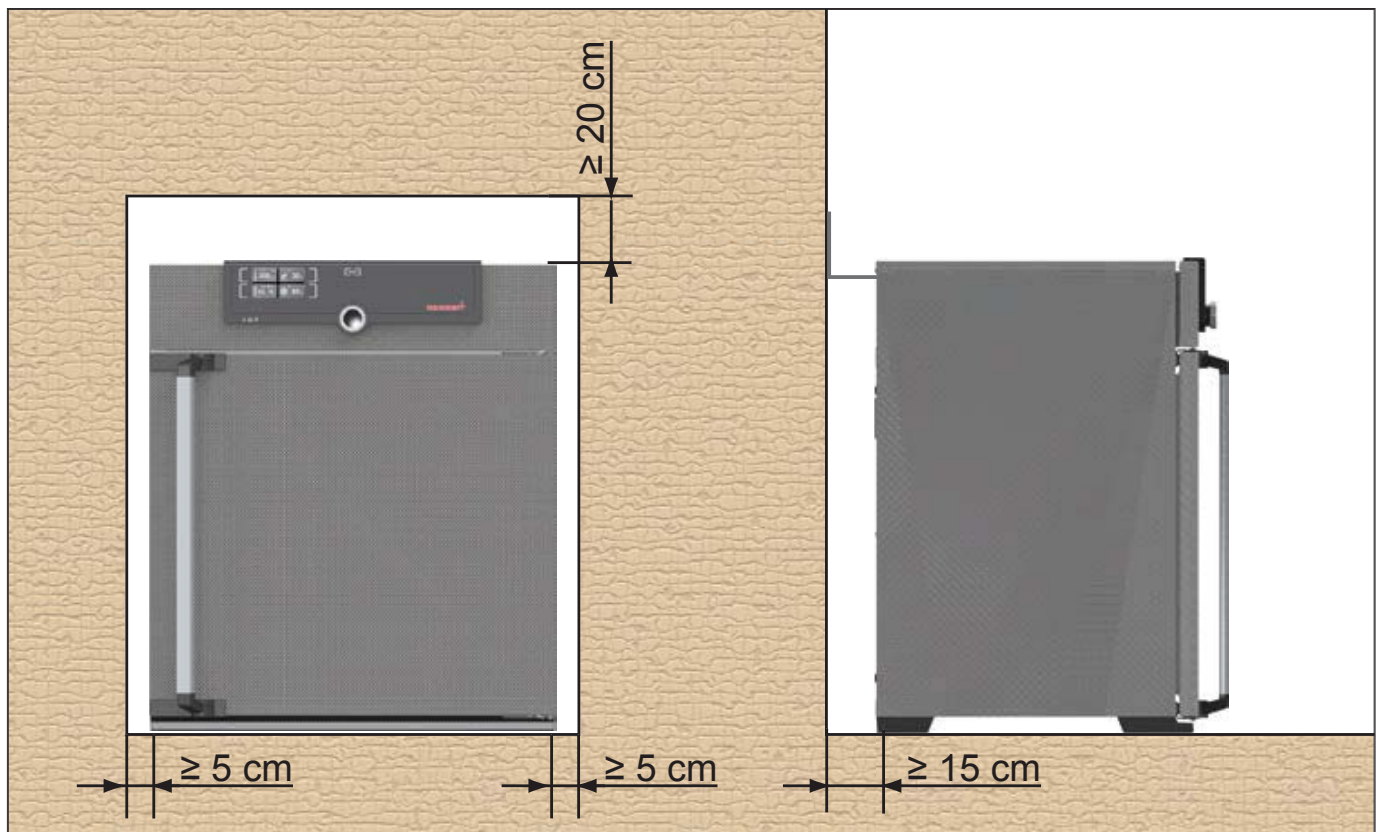

Fig. 8 Minimum clearance from walls and ceiling
The distance between the wall and the rear of the appliance must be at least 15 cm. The clearance from the ceiling must not be less than 20 cm and the side clearance from walls or nearby appliances must not be less than 5 cm (Fig. 8). Sufficient air circulation in the vicinity of the appliance must be guaranteed at all times.
2. Bend the tilt protection upwards by 90 ° in the desired distance to the wall (consider the minimum distance to the wall, see Fig. 8).